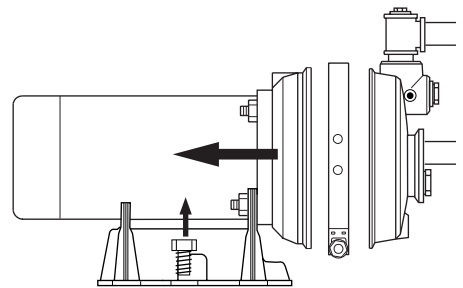

Figure 5
2. Remove clamp holding pump halves together (See Figure 5).